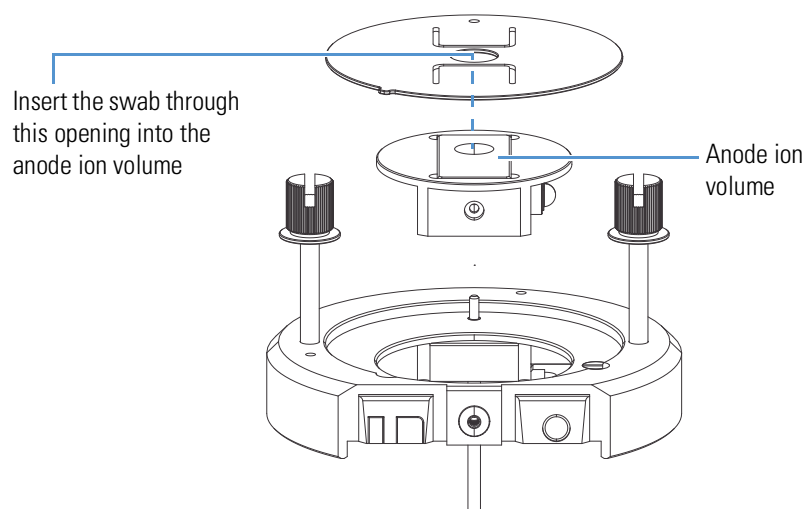

Figure 8-7. Back of the IC source heater interface (exploded view)
4. On the back of the IC Source heater interface, insert a swab through the calibrant ion source retainer into the opening of the anode ion volume (Figure 8-7), and then clean inside the opening.
5. Dry the component with nitrogen gas to make sure that all the solvent evaporates. Also purge through the gas connection at the top (facing front in Figure 8-7).